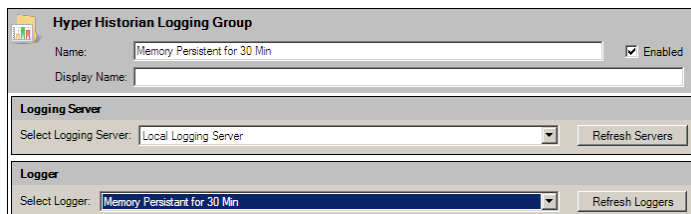

Figure 3 - Logging Group Configuration
10. Your configuration should look similar to Figure 3. Click Apply to save your settings.